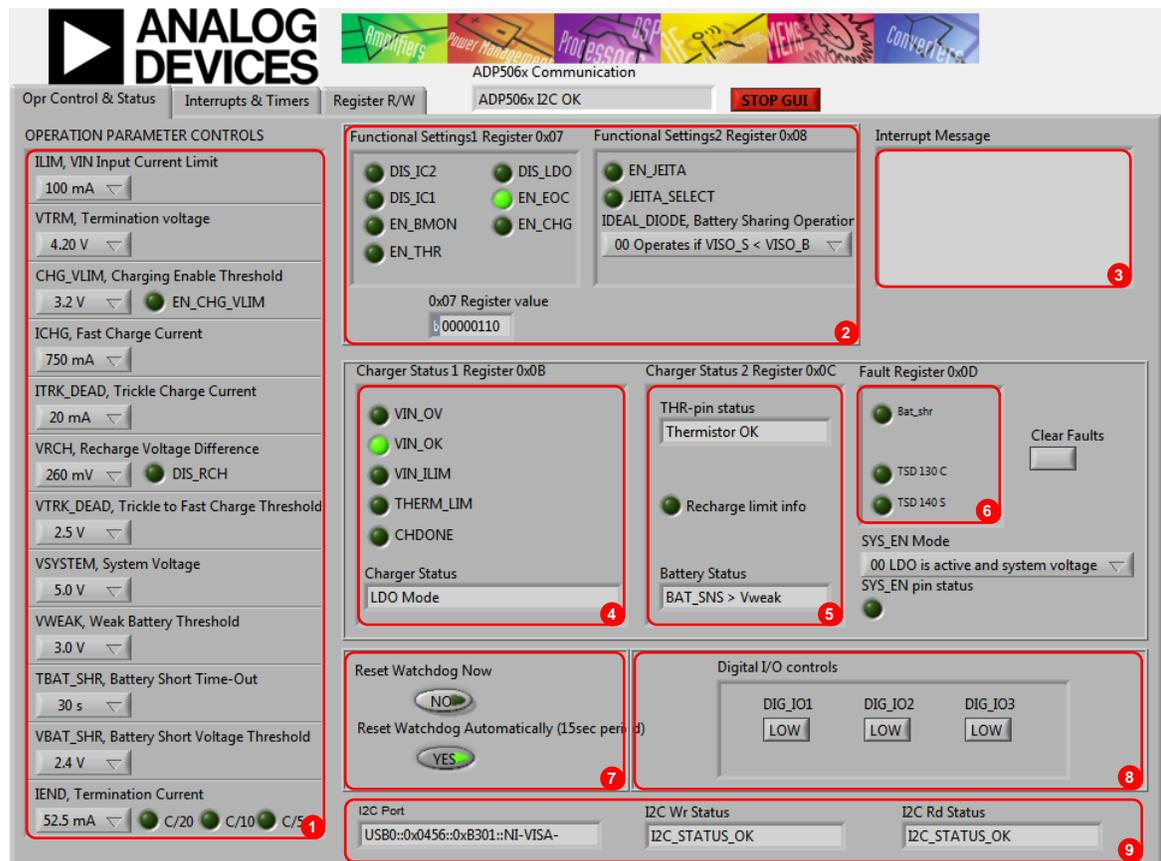
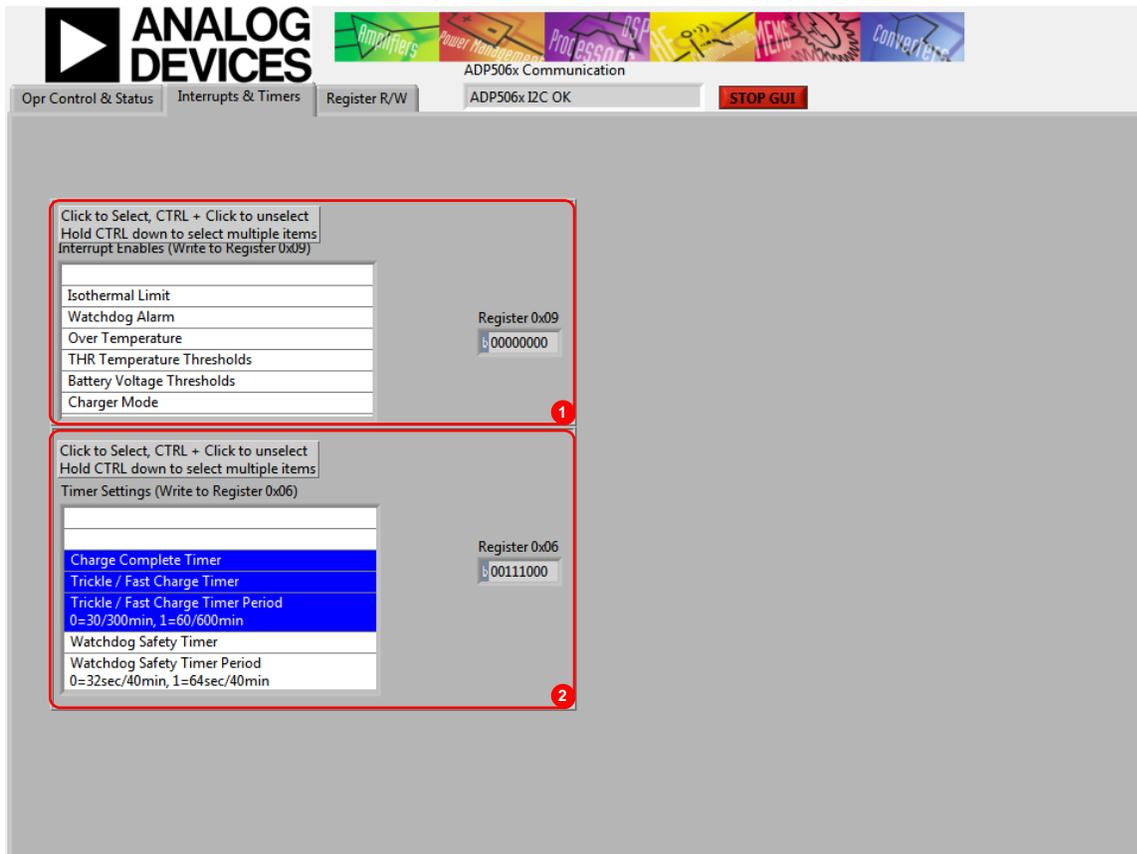

Figure 2. ADP5063 GUI Operation Control and Status Tab
Figure 3. ADP5063 Evaluation Software GUI, **Interrupts & Timers** Tab
The following are the GUI operation controls and status tools (see Figure 2):
VIN must be above 2.5 V in order for the I2C communication of the ADP5063 to start working. The VIN voltage level is monitored, and the indicators are shown in the charger status indicators (see Number 4 in Figure 2). The GUI automatically reads the content of the registers after every 0.3 seconds from the last action and updates the status of the registers on screen.
If there is a problem in the I2C communication, the status indicators show an error message (see Number 9 in Figure 2). When I2C communication is operational, status indicators show I2C\_STATUS\_OK (see Figure 2).
The **Interrupts & Timers** tab (see Figure 3) in the GUI controls the register settings. Register 0x0A is automatically read after every 0.3 second timeout from the last user action involving the GUI. When a certain interrupt is enabled, and there is a status change in the corresponding function during charging, an interrupt message is shown in the **Opr Control & Status** tab (see Number 3 in Figure 2).
The default settings of the timers are shown in Figure 3. Changing the timer settings can be done by clicking items in the **Timer Settings (Write to Register 0x06)** box.
- The **Battery Status** indicator on the GUI must show  $BAT\_SNS > V_{weak}$  (see Figure 2).
4. Disable charge complete timer register, Register 0x06, using the GUI (see Figure 3).